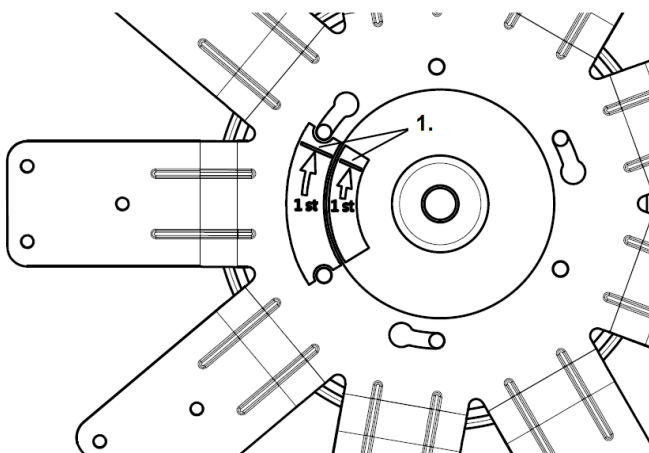

Fig. 8
- Attach the blade holder to the motor by lining up the position label (1) Fig. 8 and secure it by tightening 6 screws Fig. 9